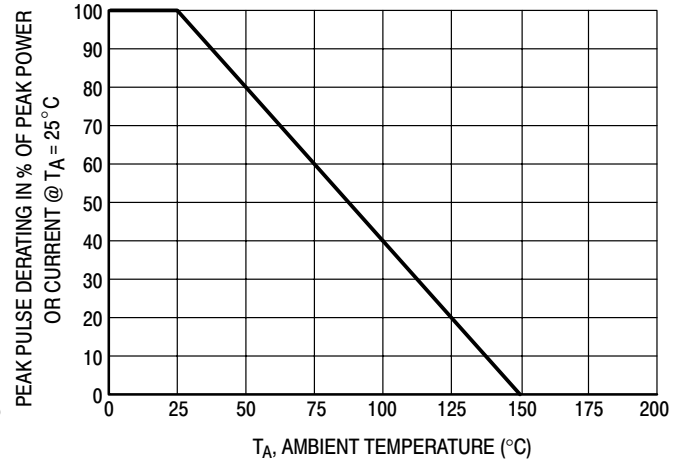
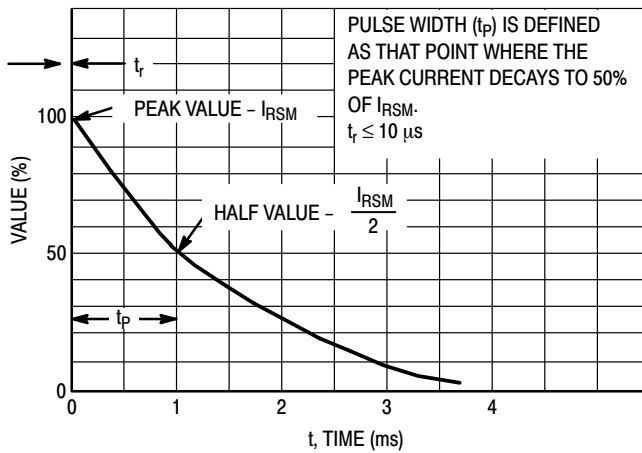
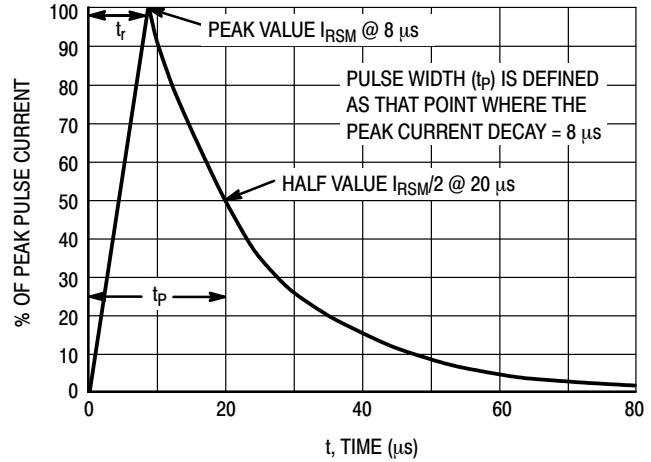

Figure 4. Pulse Derating Curve
Figure 5. 10 × 1000 µs Pulse Waveform
Figure 6. 8 × 20 µs Pulse Waveform
- Non-repetitive current pulse per Figure 5 and derate above $T_A = 25^\circ\text{C}$ per Figure 4.
- Non-repetitive current pulse per Figure 6 and derate above $T_A = 25^\circ\text{C}$ per Figure 4.
- Surge current waveform per Figure 5 and derate per Figure 4.